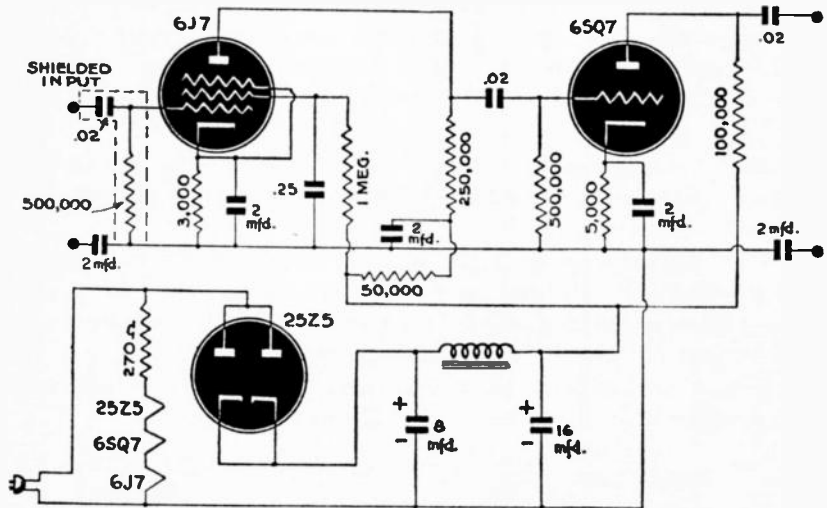

Fig. 306
A. The tubes shown in the accompanying diagram (Fig. 306) will make the most suitable pre-amplifier. Used with a low-input mike, it will bring up signals sufficiently to feed a medium-sensitivity amplifier;